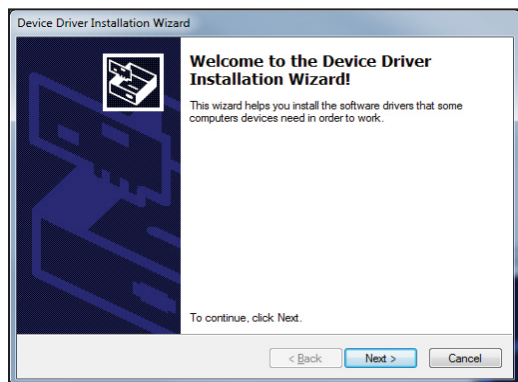

Fig. 4 Install Driver
3. The driver installation wizard will open. Click Next (Fig. 4).